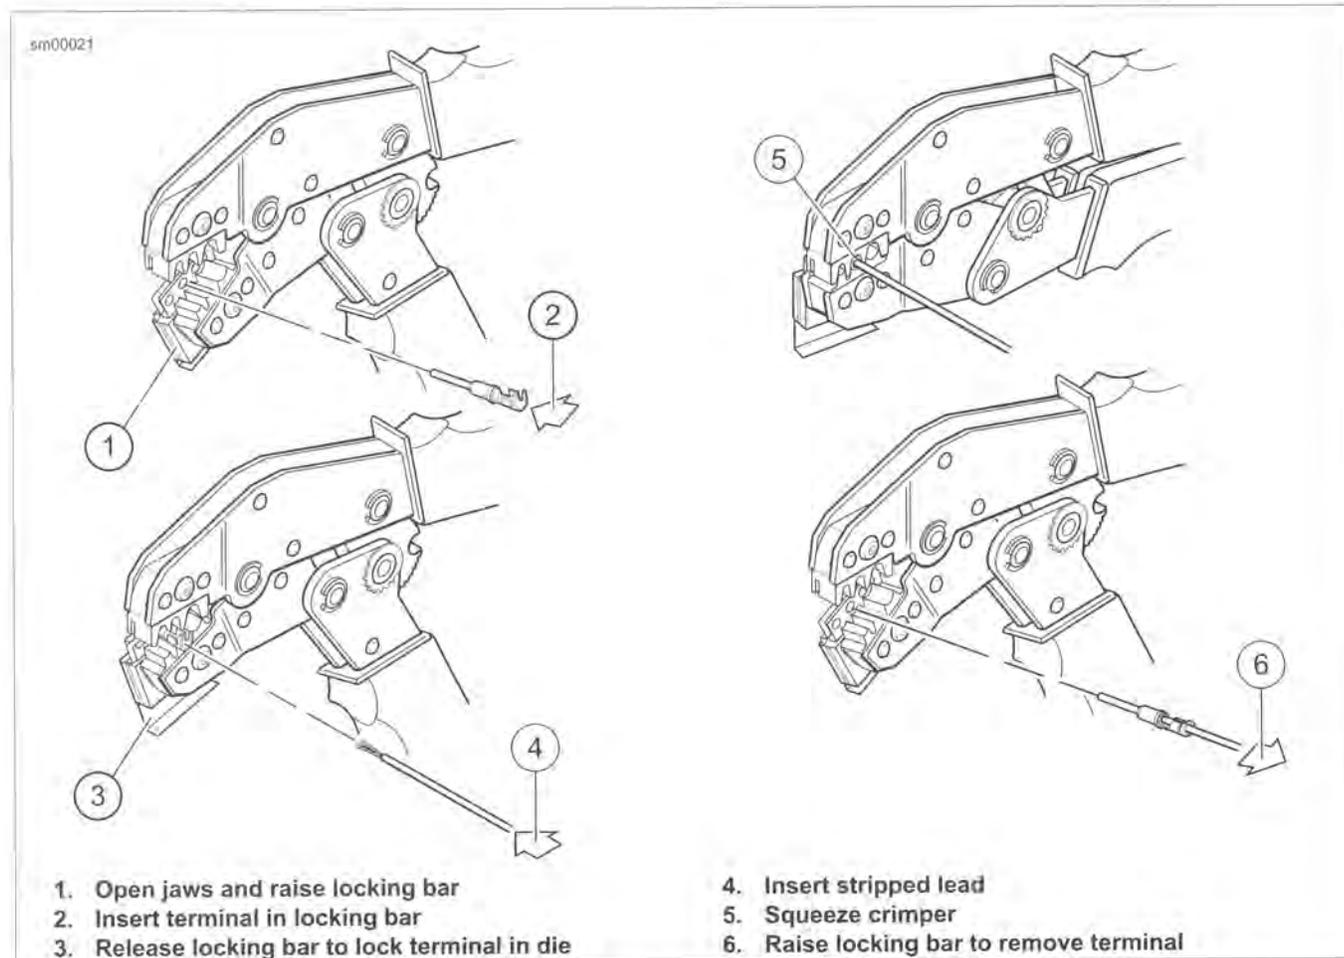

Figure A-36. Crimping a Deutsch DT Sealed Terminal
1. See Figure A-36. Squeeze the handles of the DEUTSCH TERMINAL CRIMP TOOL (Part No. HD-39965-A) to open the jaws. Push the locking bar (1) up.